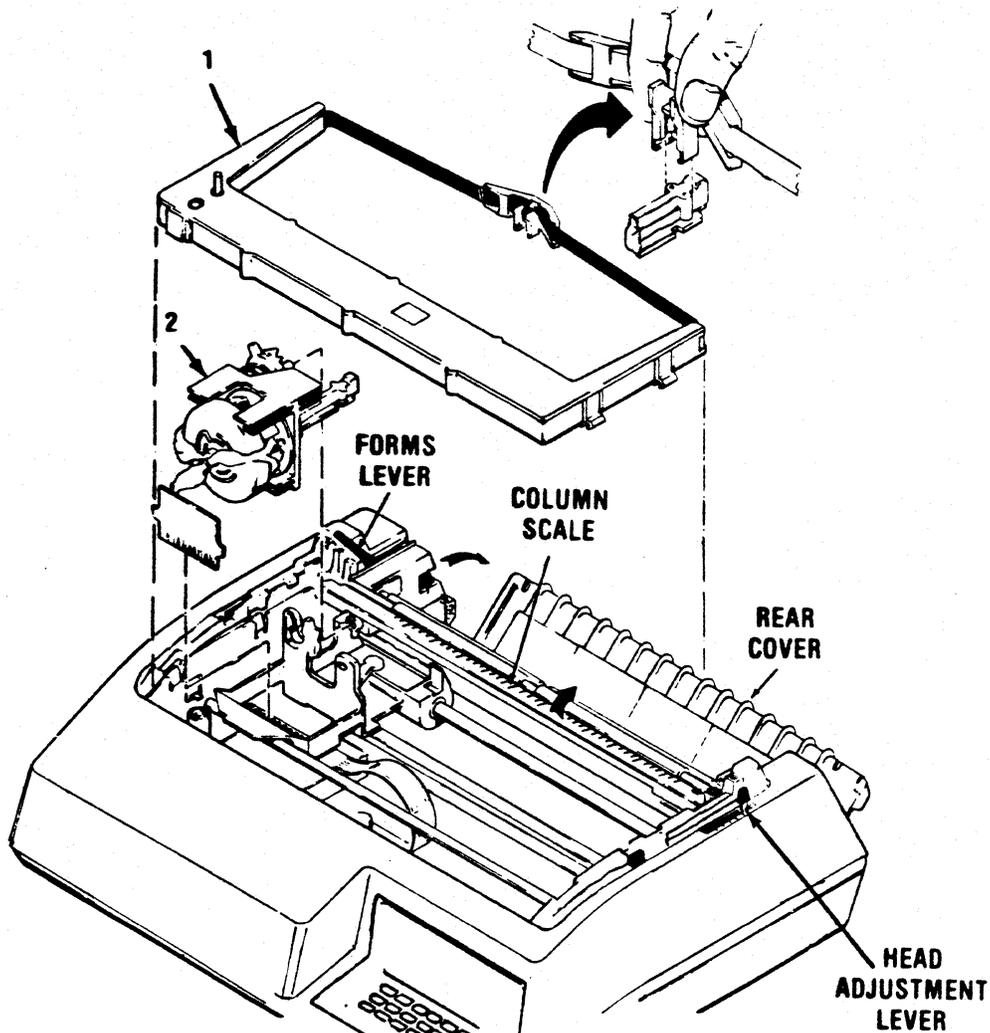

Figure 5-2. REMOVAL/REPLACEMENT, RIBBON CASSETTE AND GUIDE, PRINT HEAD ASSEMBLY
The ribbon cassette is mounted to the left and right side frames and the ribbon guide is mounted over the front of the print head. No tools are required to re-move the cassette and guide. To remove the cassette and guide, refer to Figure 5-2 and perform the following steps:
The print head assembly, item 2 of Figure 5-2, attaches to the carriage. No tools are required to remove the print head. To remove the print head, refer to Figure 5-2 and perform the following steps:
9. To remove the print head (2) simultaneously pull the head towards the front of the printer and lift the head up and out of the printer.